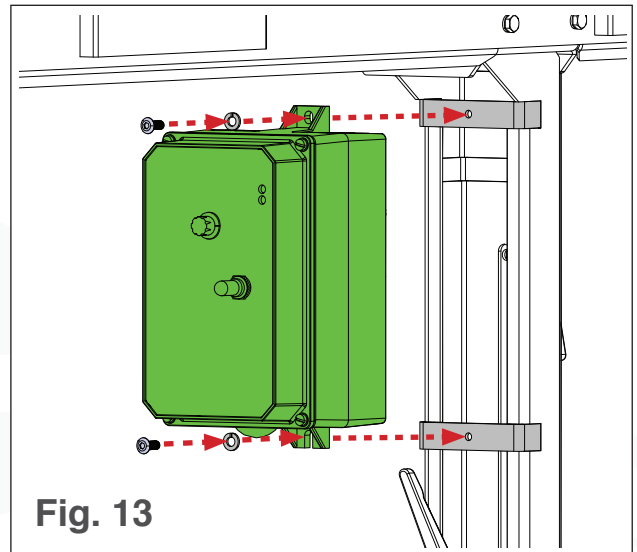

Fig. 13
2. Secure the control box to the leg with two $\frac{1}{4}$ "-20 x $\frac{3}{4}$ " button head cap screws and $\frac{1}{4}$ " split washers (see Fig. 13).